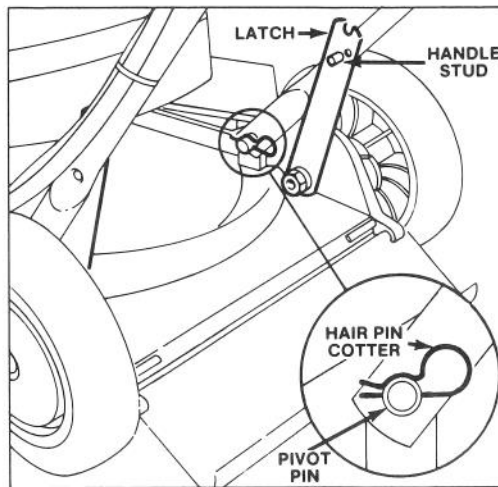

Figure 1
1. LOWER HANDLES (Fig. 1) — Push ends of handle together and install on pivot pins. Move handle and latches backward until handle studs snap into center hole. Push hair pin cotters through holes in pivot pins.